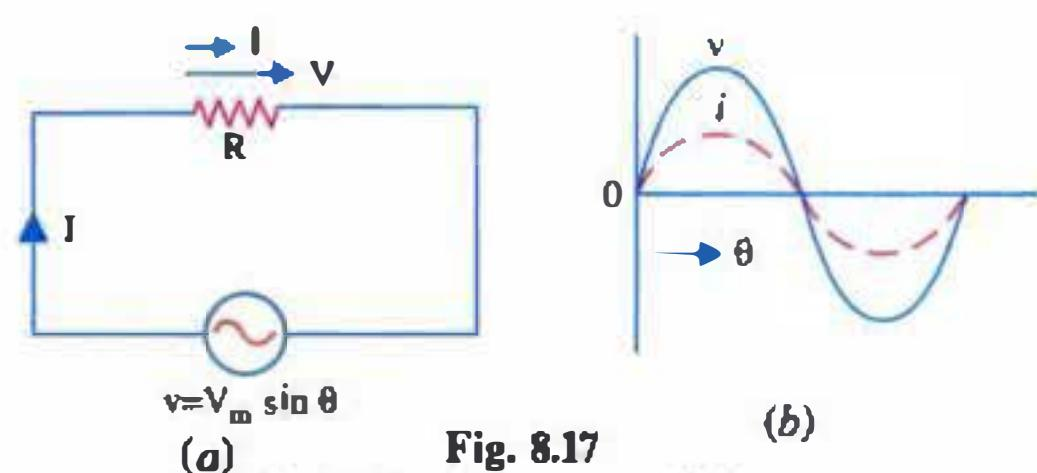

Fig. 8.17
- (i) which is in phase with the voltage as shown in Fig. 8.17, both graphically and vectorially;